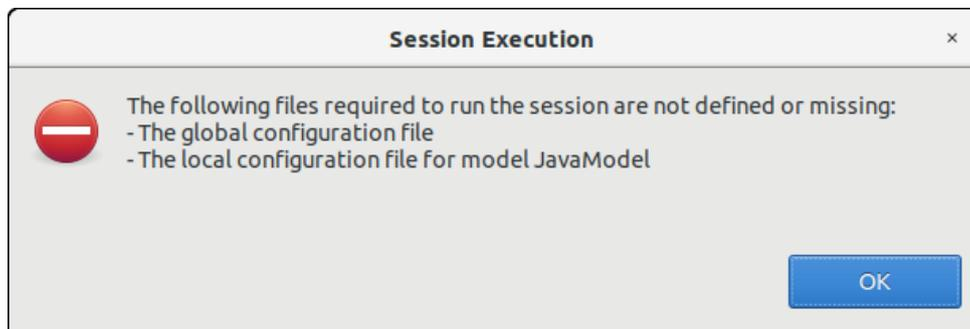

Figure 4-108: Execution prevented due to missing configuration files
- ❑ If the global configuration file for the simulation, or the local configuration file of any active module in the simulation is missing, the execution will not proceed, and a dialog will be displayed listing the missing files as shown in Figure 4-108.